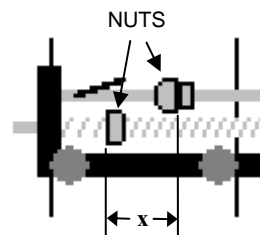

FIGURE 8 – Measuring the compression distance
E) The only data that you need to take for this section is to measure the compression distance for the spring, x . Use the caliper on your desk to measure this. When the launcher is un-armed, measure the distance from the far side of the nut on the left to the far side of the nut on the right. **See Figure 8**. Grab your TA for help either measuring the distance or reading the caliper. Place this value in the chart.
C) Second, you are going to adjust the compression distance of the spring launcher. You should be able to loosen the nuts on the top arm of the launcher with your fingers. **See Figure 8**. If the nut is too tight then there is a pair of pliers at the front